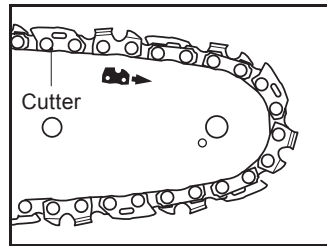

Fig. 6
3. Use the new guide bar (19) and saw chain (20) with same types described in the “technical specification”.
4. Spread the saw chain (20) out with the cutting edges of the chain pointing in the direction of rotation. Slide the saw chain (20) into the groove around the guide bar (19). Ensure saw chain (20) is installed in correct direction of rotation (Fig. 6).